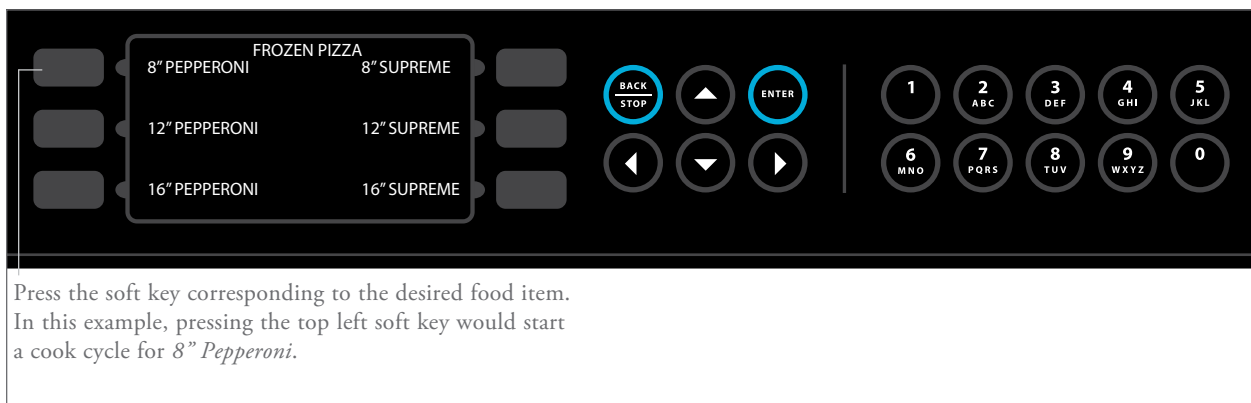

FIGURE 10: Selecting a Food Item
5. Select a food item (Figure 10). The oven will begin cooking.